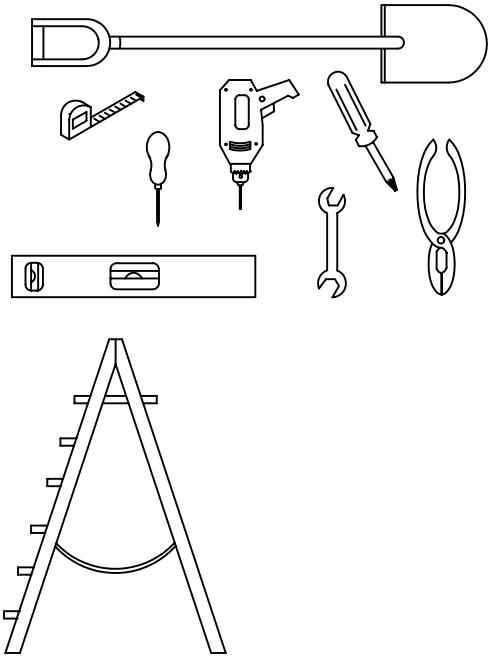

FIG. 1
- 1. WEATHER WARNING ! DO NOT ERECT YOUR BUILDING ON A WINDY DAY. ANY BUILDING LEFT PARTIALLY CONSTRUCTED MAY BE SERIOUSLY DAMAGED (FIG.1).**
- 2. ALL ASSEMBLY OPERATIONS MUST TAKE PLACE ON A COMPLETELY LEVEL SURFACE (FIG. 1)**
- 1. TEMPÊTE DE VENT: NE JAMAIS MONTER VOTRE ABRI PAR GRAND VENT. NE PAS LAISSER UN ABRI PARTIELLEMENT MONTÉ, LES PIÈCES DOIVANT ÊTRE ENDOMMAGÉES (FIG. 1).**
- 2. TOUTES LES OPÉRATIONS DE MONTAGE DOIVENT ÊTRE RÉALISÉES SUR UNE SURFACE PLANE (FIG 1).**
- 1. AVISO DE TEMPESTADE! NÃO PROCEDA À MONTAGEM DO SEU ABRIGO NUM DIA VENTOSO. QUALQUER ABRIGO DEIXADO PARCIALMENTE MONTADO PODE FICAR SERIAMENTE DANIFICADO (FIG. 1).**
- 2. TODAS AS OPERAÇÕES DE MONTAGEM DEVEM SER EFECTUADAS NUMA SUPERFÍCIE COMPLETAMENTE NIVELADA (FIG. 1).**
METEOROLOGÍA. NO INTENTE LEVANTAR EL EDIFICIO EN UN DÍA DE VIENTO. CUALQUIER COMPONENTE QUE QUEDE A MEDIO MONTAR PUEDE SUFRIR DAÑOS IMPORTANTES. (FIG. 1).
2. TODAS LAS OPERACIONES DE MONTAJE DEBEN DE REALIZARSE SOBRE UNA SUPERFICIE TOTALMENTE PLANA Y AL MISMO NIVEL. (FIG. 1)